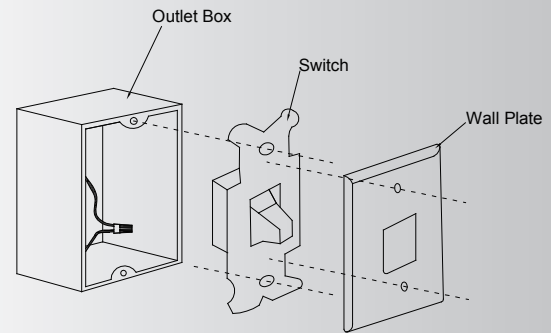

Fig. 22
**Step 1.** Remove the existing wall plate and the old switch from the wall outlet box. Wire nut the BLACK leads (hot) together and push back inside the outlet box. (Fig. 22) Or Select the desired location with a new wall outlet box.